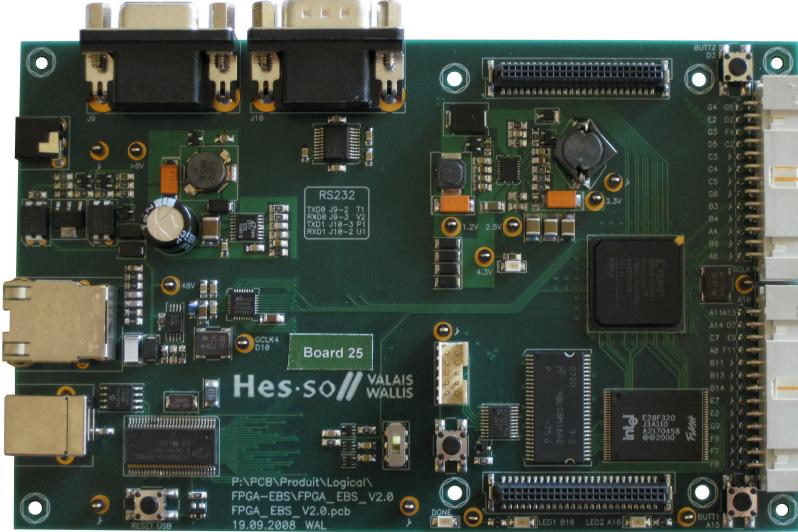
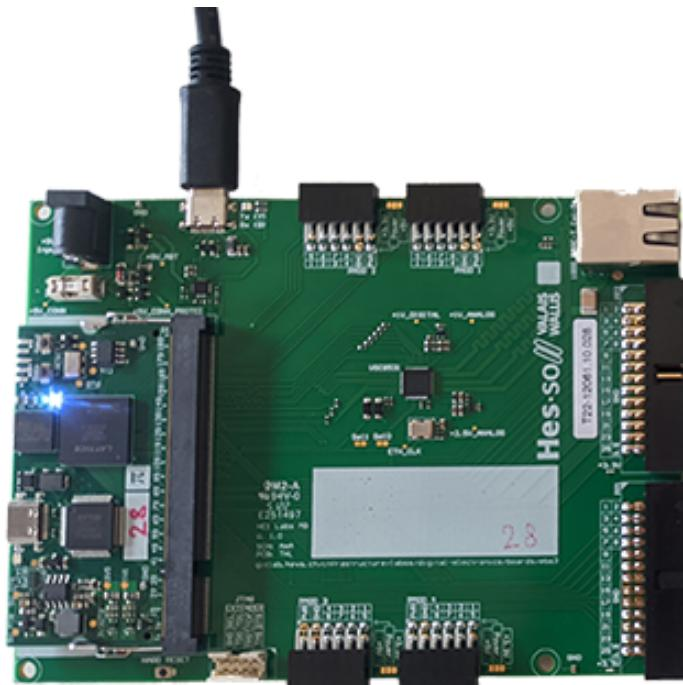

Figure 13 - FPGA board [6]
Figure 14 - FPGA board [10]
- A FPGA development board (Figure 13 or Figure 14)